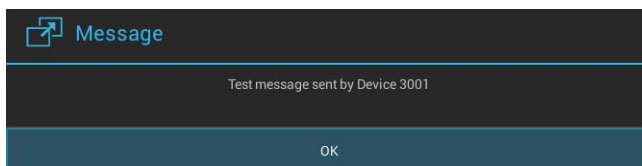

FIG. 45 Enzo - Successful Test Message
- To test the connection, press the *Share Content* icon in the *RECEIVER LIST* to send a test message to the Enzo unit. If the Enzo is communicating properly with the panel, it will indicate the test message on its connected display (FIG. 45):